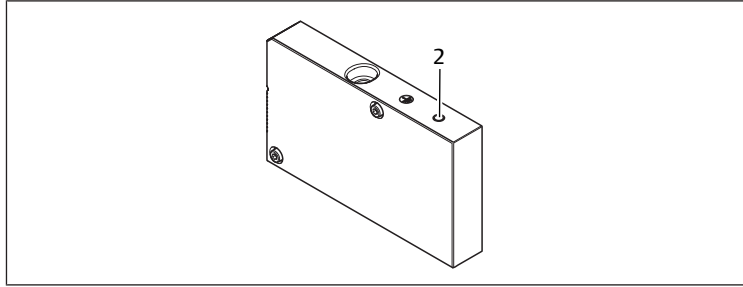

Fig. 8: FE connection
- To discharge EMC interferences, connect the FE connection (2) on the left end plate to the functional grounding via a low-impedance line. See → Fig. 8. Recommended cable cross-section: 10 mm².